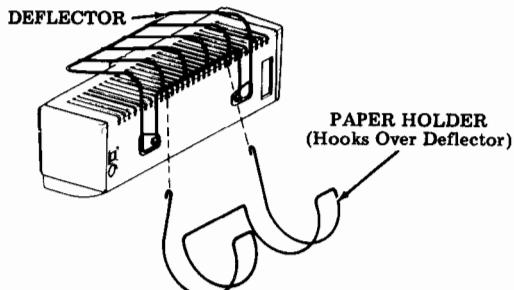

Fig. 4—Paper Holder
3.11 Attach the paper holder to the deflector as shown in Fig. 4.